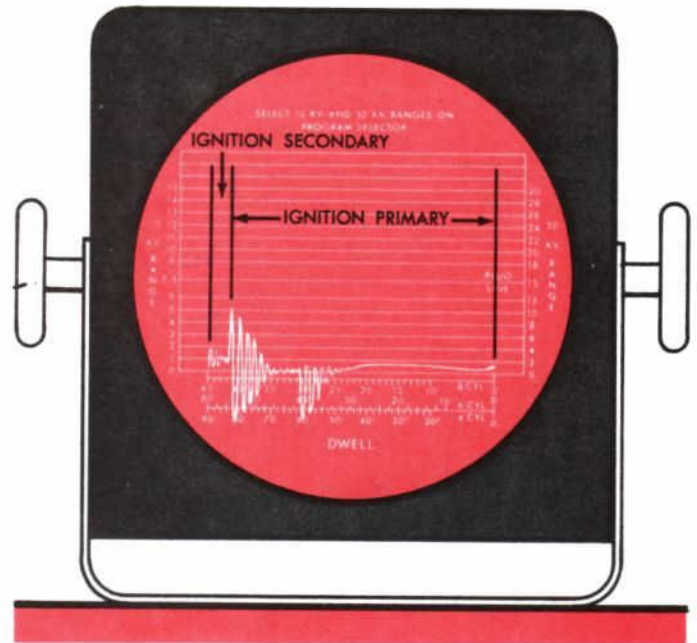

Figure 2—Scope Pattern
5. Scope (Figure 2) to give a graphic view of what's going on in the complete ignition system.